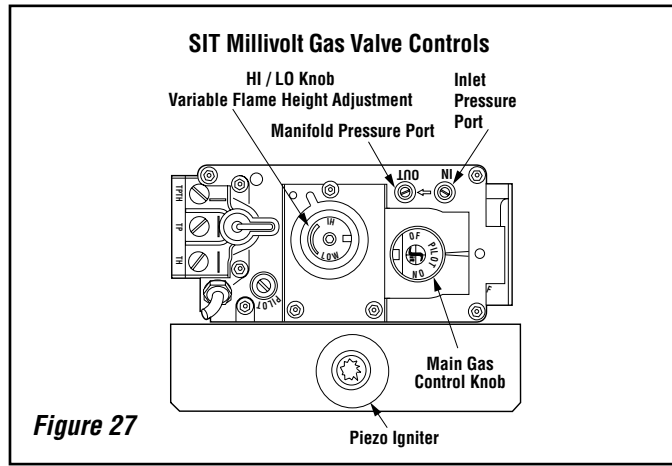

Figure 27
- Loosen setscrew at inlet pressure tap on upper right of control valve (see **Figure 27 on Page 27**).
With gas line installed run initial system checkout before closing up the front of the unit. Follow the pilot lighting instructions on *Page 34* (or pull out the instruction label located in a holder on rear shield of stove). For piezo igniter location see *Figure 27*.